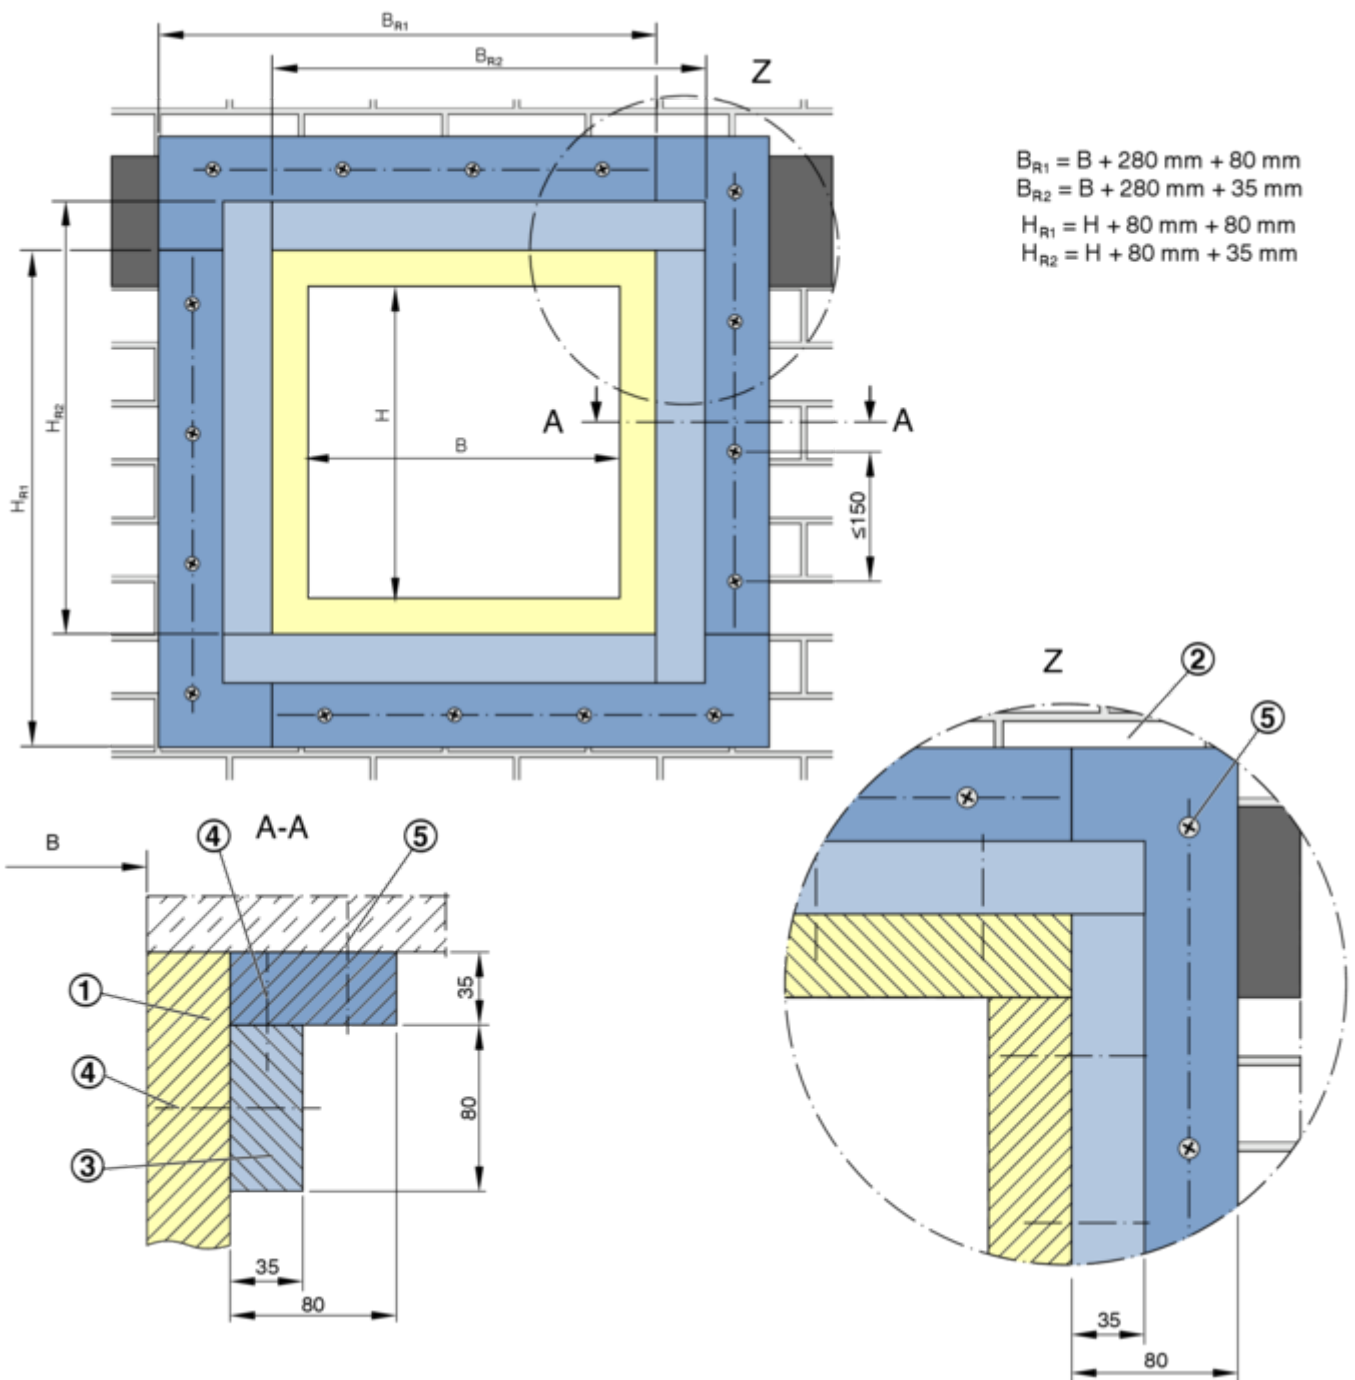

Fig. 26: Angle section detail
- 3 Angle section (on site) ↪ Fig. 26
| <ul style="list-style-type: none"> 1 EK-JZ 2 Wall 3 Angle section made of PROMATECT[®]-LS fire protection board $d = 35$ mm or equivalent, glued to each other at joints and to the damper frame, e.g. with K84 or equivalent 4 Steel wire clamp $\leq 63/11.2/1.5$ mm, or drywall screw 4×70 mm (on site) | <ul style="list-style-type: none"> 5 Screw connection with approved metal anchor $\varnothing 6$ or 8 mm (on-site), screw spacing ≤ 150 mm, see also Fig. 26 6 Reinforcement on the lower angle section 7 Glue, Promat K48 or equivalent |